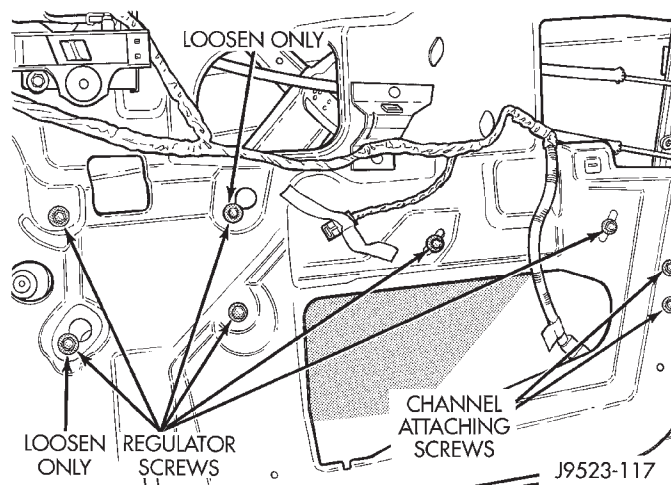

Fig. 7 Front Door Window Regulator Remove/Install
(4) Slide the door glass rearward to remove it from the nuts.
(5) Pull the door glass to the full up position and tape the glass to the upper door window frame.
(6) Unplug the wire harness connector from the power window motor.
(7) Remove the four screws securing the window regulator to the inner door panel (Fig. 7).